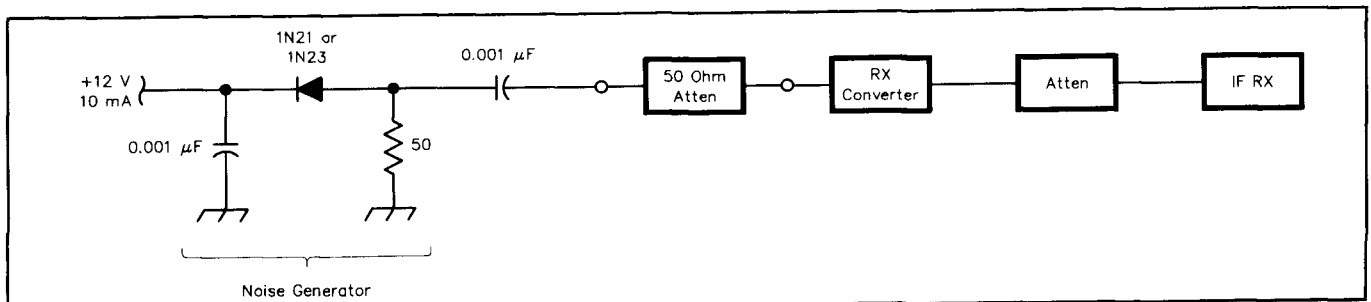

Fig 5—Receiver-noise measurement system. The attenuator immediately after the noise generator is for impedance-matching purposes. See text.
Noise-figure (NF) comparisons can be made with the arrangement shown in Fig 5. A noise source is connected to a